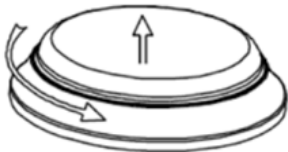

Fig. 1
- Rotate the diffuser anti-clockwise and remove (see Fig. 1)